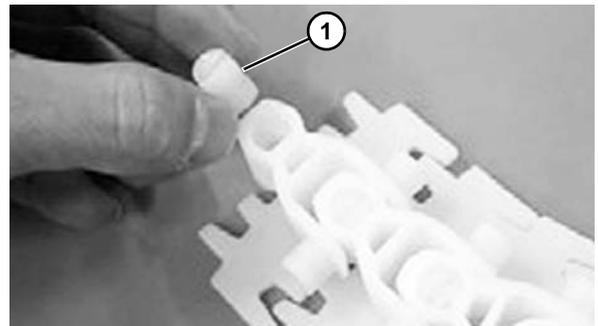

**Figure 47**
2. Check that the rivets do not protrude over the surface of the slide rail. Check both top and underneath surface of slide rail for protruding metal. (See **Figure 47**.)